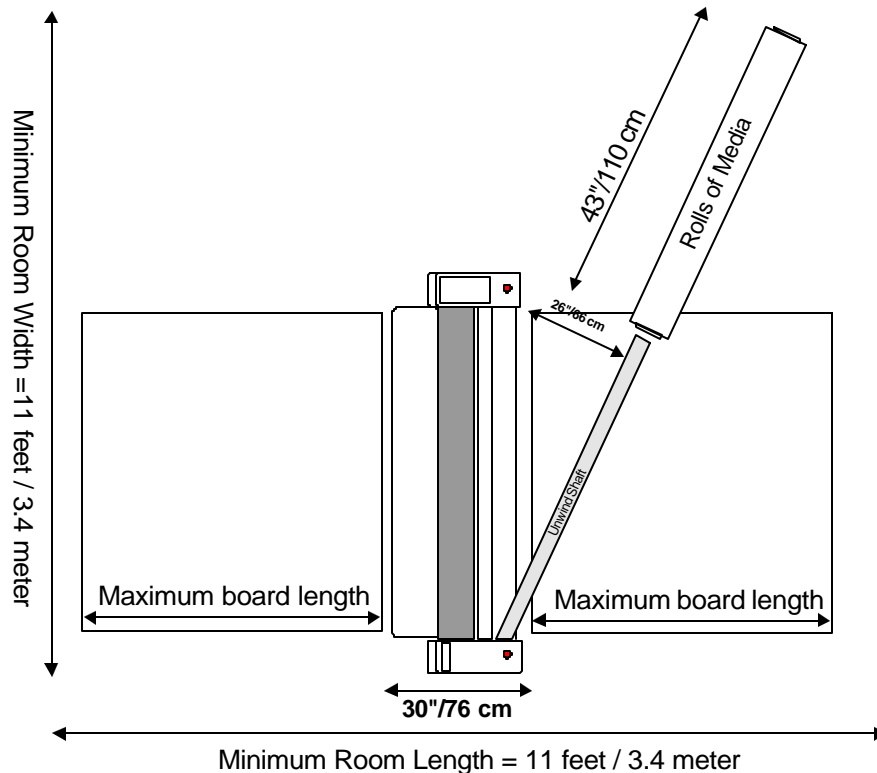

Figure 1. Workspace Area Diagram
- Your laminator has castors to allow for easy moving. Roll the laminator to the location it will be used. (See Workspace Area Diagram – Figure 1).